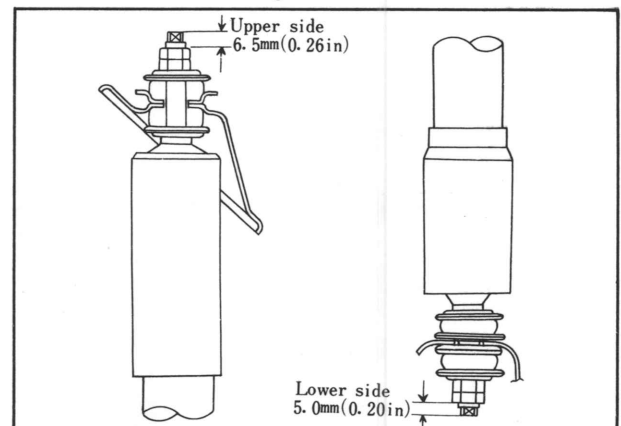

Fig. 13A-4 Tightening lock nut
2. Tighten the shock absorber upper nuts to the dimension shown in Fig. 13A-4.